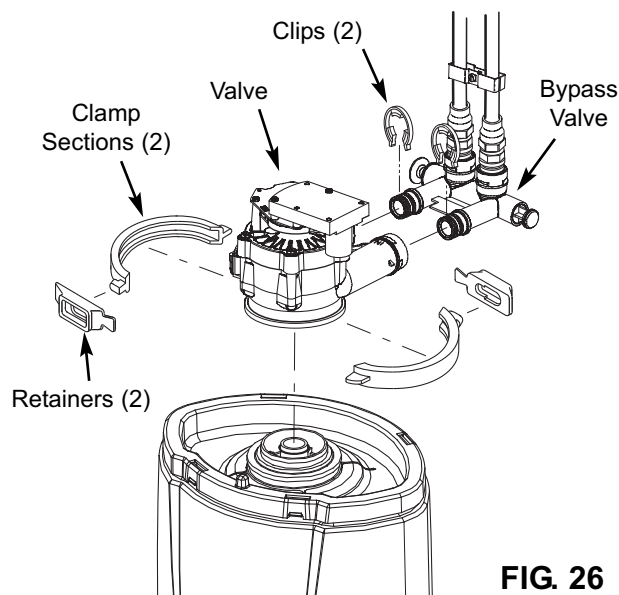

FIG. 26
6. Remove the clamp retainers (2) and clamp sections (2) that hold the valve to the tank (See Figure 26). Lift upward to remove the valve.